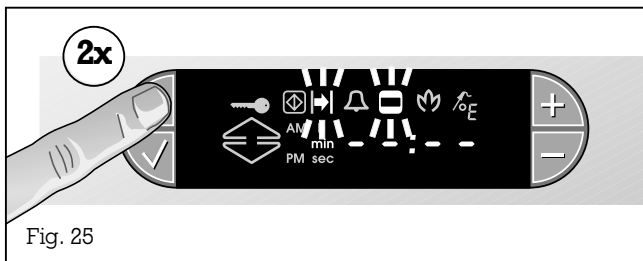

Fig. 25
- Press the ☹️ (Timer) key twice. The -| (End) and ◻ (Cooking time) symbols flash (Fig. 25).